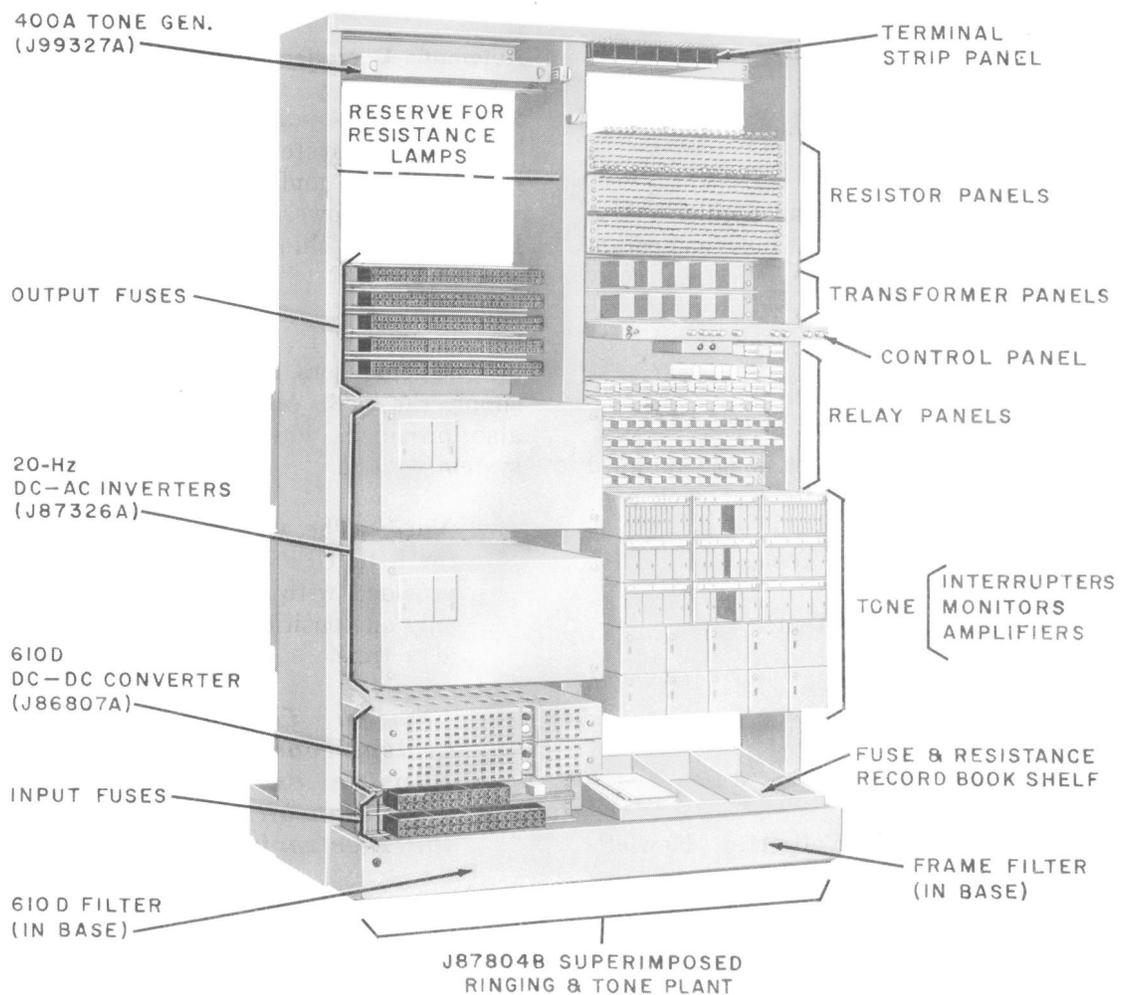

Fig. 1—J87804B Superimposed Ringing and Tone Plant
**1.08** These plants also furnish 105-volt ac continuous ringing current for miscellaneous uses such as PBX feeders for manual switchboards. In addition, the J87804B (see Fig. 1) plant provides 97V continuous ringing current for dial long-line circuits.